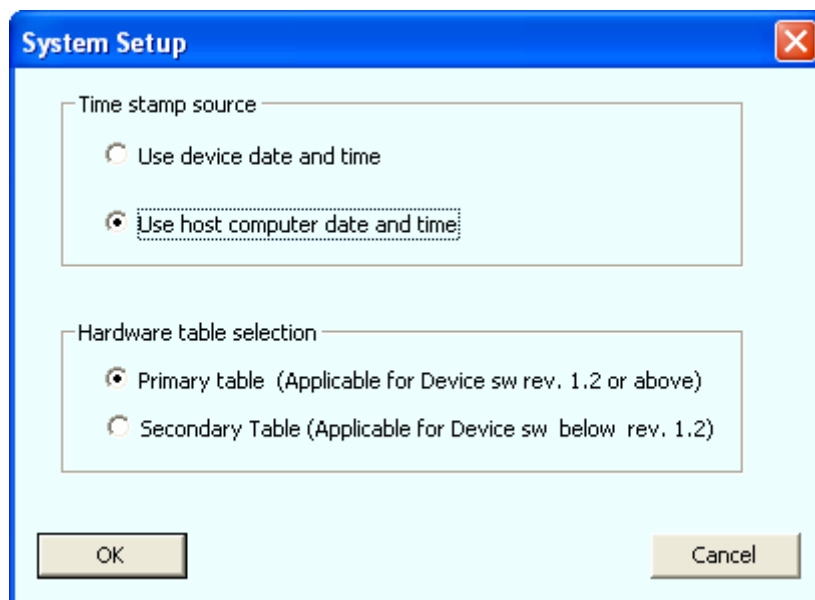

Figure 16 : System Setup
1. On the menu bar, click **Settings** menu and then click **System Setting** sub menu. The System Setup dialog appears (Figure 16).
The System Setup dialog appears (Figure 16).